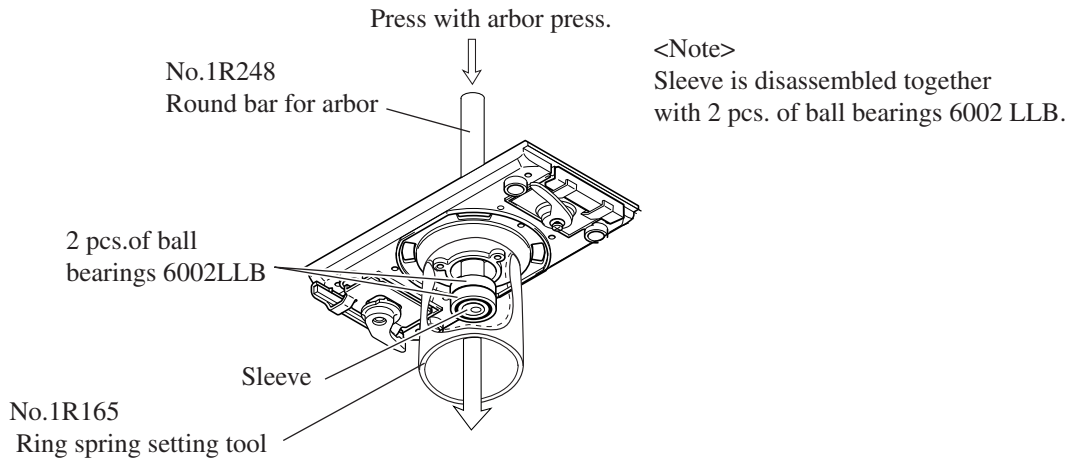

Fig. 9
2. Holding the base with 1R165 "Ring Spring Setting Tool", disassemble 2 pcs. of ball bearings 6002LLB by pressing No.1R24 "Round Bar for Arbor" with arbor press as illustrated in Fig. 9.